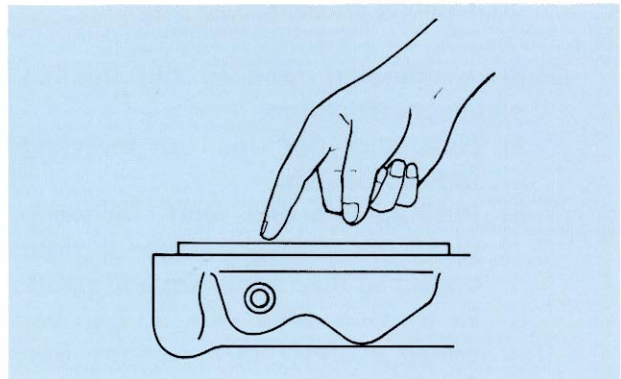

Fig. 1
- (2) Use the tip of your finger to dab paint on about 20 places on the surface of the end cap. See Fig. 1.